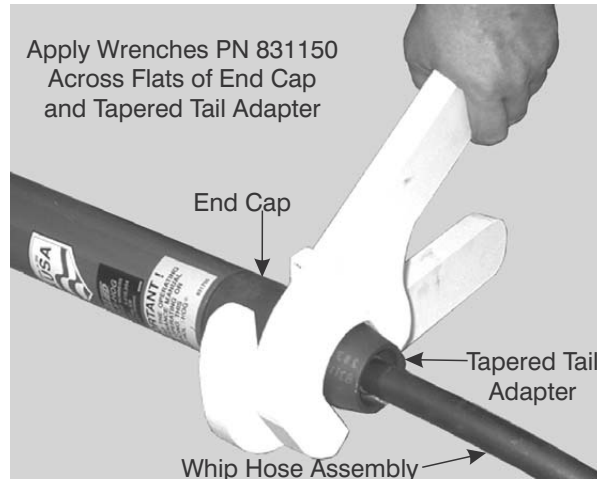

Figure 9-46. Secure Tail Adapter to End Cap.
6. With the End Cap secured as described step 2, above, fit one of the End Cap Wrenches (831150) across the flats of the Tapered Tail Adapter (13) as shown in Figure 9-46.